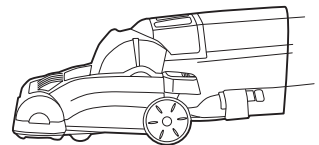

Fig. 4
4. Low position - for cleaning under furniture (Fig. 4).